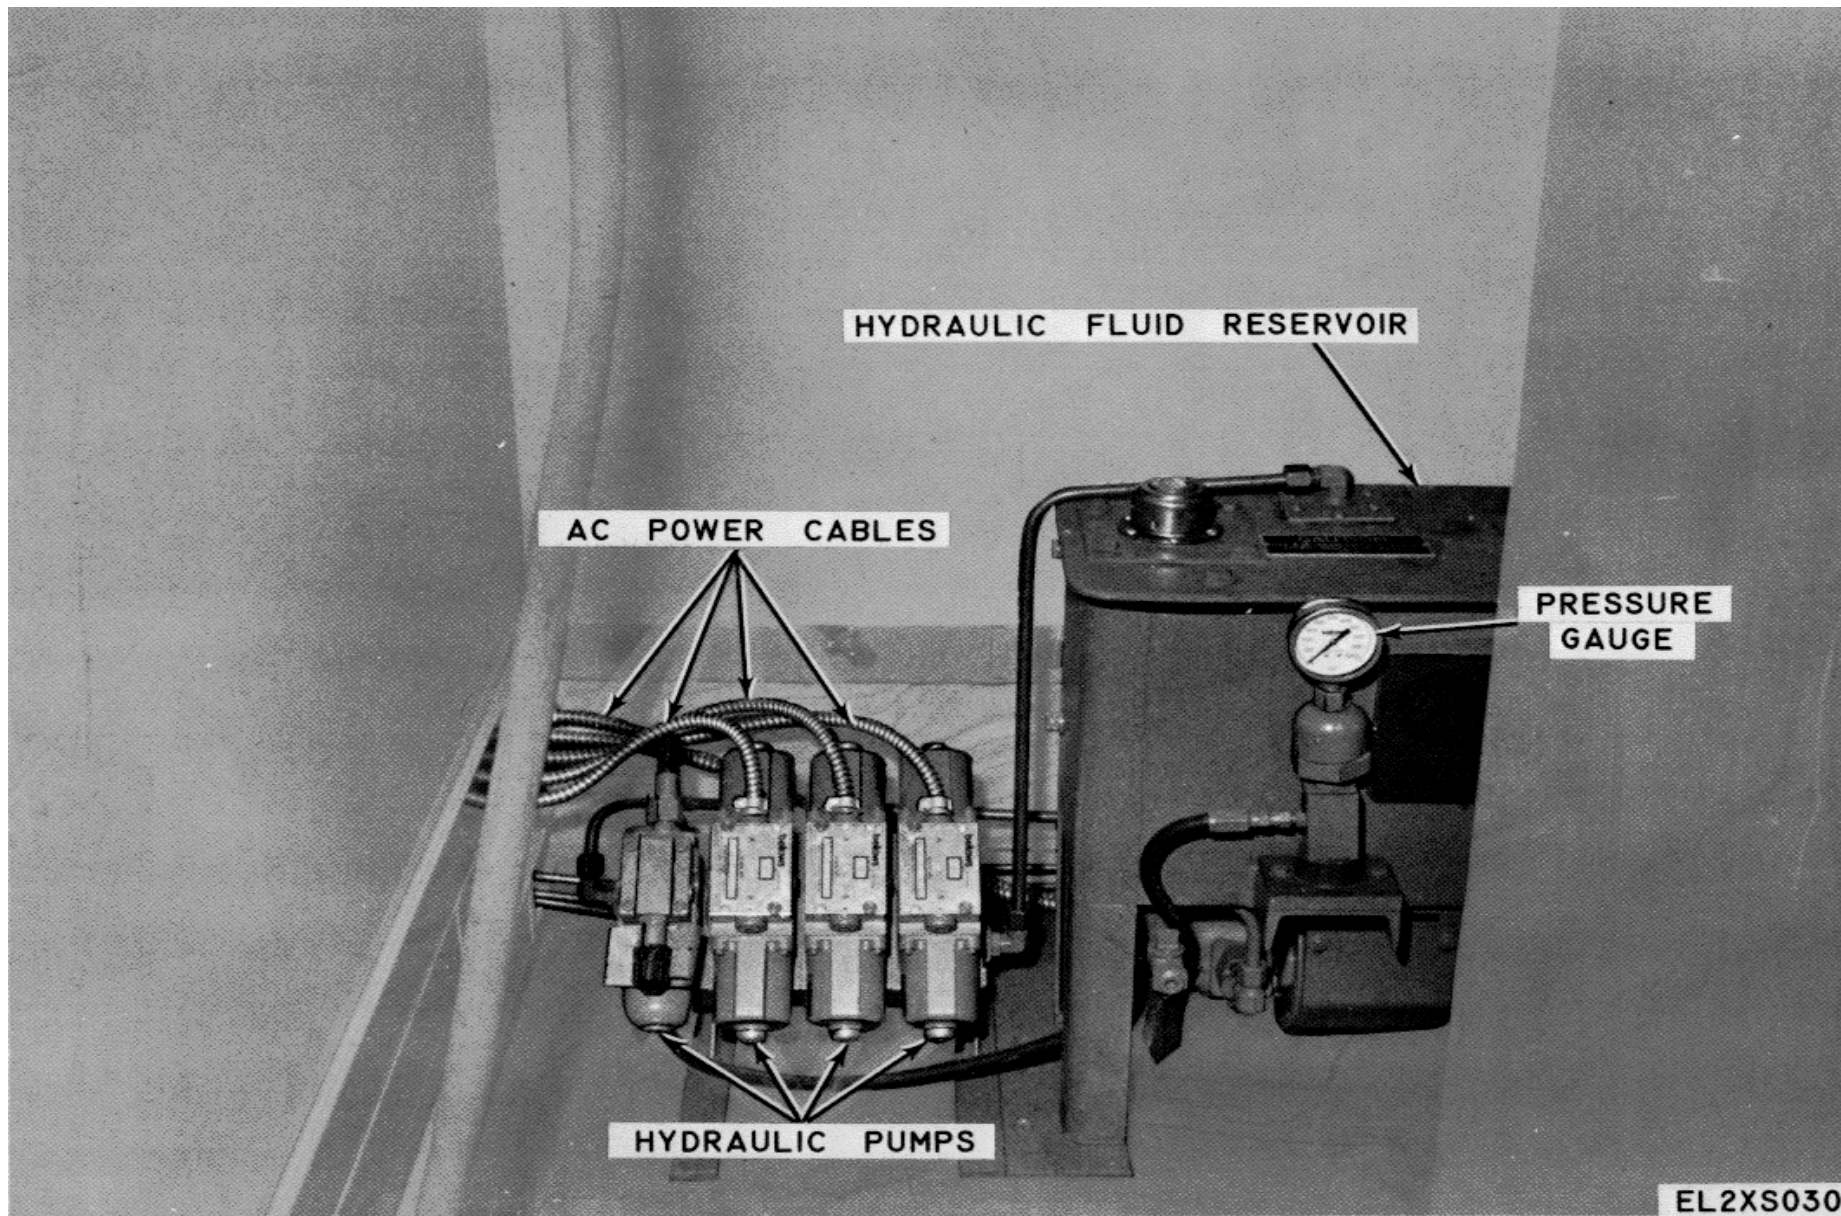

Figure 4-1. Typical Hydraulic Power Unit.
The hydraulic power unit (not installed in OL-88 (V)3,/MYK-8(V)) generally consists of a hydraulic pump or pumps, electric motor, relief valve, suction strainer or filter, and a reservoir for supply of oil. The power unit shown in figure 4-1 typifies one of a series of power units. While there are variations from this basic unit, this does